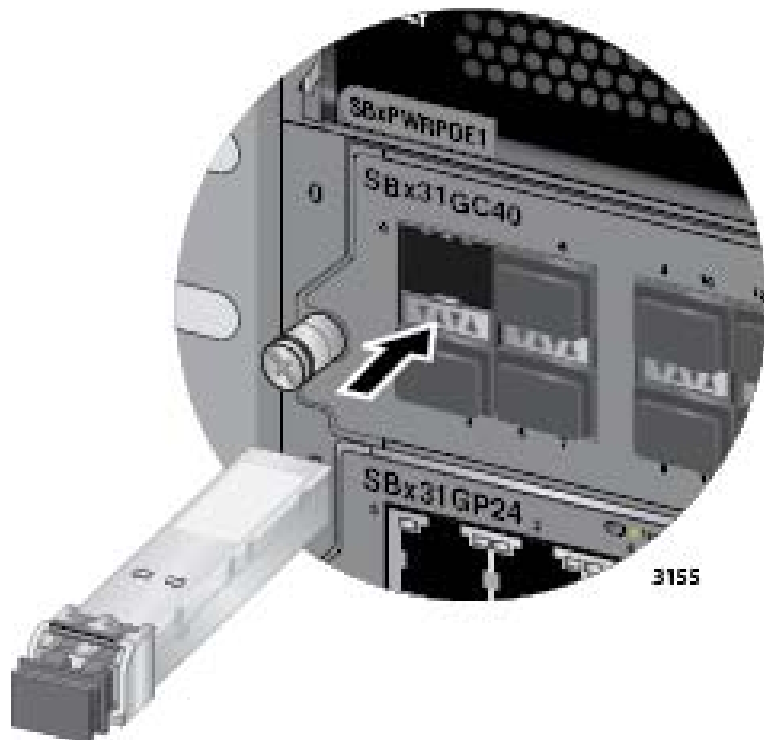

Figure 89. Inserting an SFP or a CSFP Transceiver
- Slide the transceiver into the slot until it clicks into place, as shown in Figure 89.